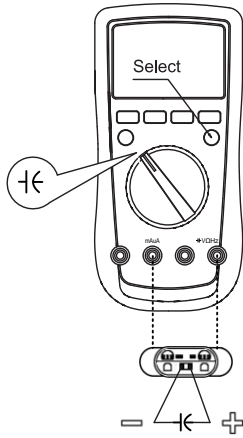

figure 7
- Connect the test leads to the proper terminals as said above to avoid errors. The LCD will display OL to indicate that the diode being tested is open or that the polarity is reversed. The Meter will display the forward voltage drop in voltage (V) units.
F. Capacitance Measurement (see figure 7)